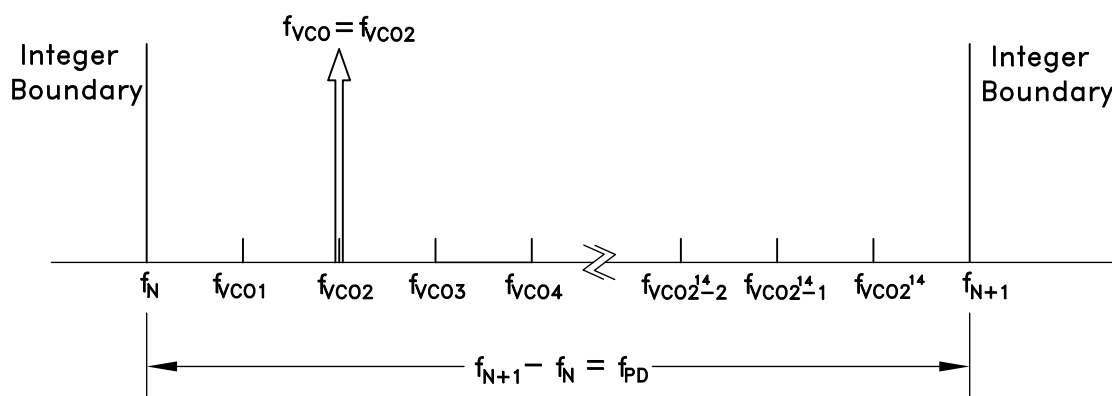

Figure 44. Exact Frequency Tuning
and f_{VCOk} are the channel step frequencies where $0 < k < 2^{24}-1$, As shown in Figure 44.
Some fractional PLLs are able to achieve this by adjusting (shortening) the length of the Phase Accumulator (the denominator or the modulus of the Delta-Sigma modulator) so that the Delta-Sigma modulator phase accumulator repeats at an exact period related to the interval frequency ($f_{VCOk} - f_{VCO(k-1)}$) in Figure 44. Consequently, the shortened accumulator results in more frequent repeating patterns and as a result often leads to spurious emissions at multiples of the repeating pattern period, or at harmonic frequencies of $f_{VCOk} - f_{VCO(k-1)}$. For example, in some applications, these intervals might represent the spacing between radio channels, and the spurious would occur at multiples of the channel spacing.
If it is desirable to have multiple, equally spaced, exact frequency channels that fall within the same interval (ie. $f_N \leq f_{VCOk} < f_{N+1}$) where f_{VCOk} is shown in Figure 44 and $1 \leq k \leq 2^{14}$, it is possible to maintain the same integer-N (Reg 03h) and exact frequency register (Reg 0Ch) settings and only update the fractional register (Reg 04h) setting. The Exact Frequency Channel Mode is possible if \(EQ 17\) is satisfied for at least two equally spaced adjacent frequency channels, i.e. the channel step size.
To configure the HMC834LP6GE for Exact Frequency Channel Mode, initially and only at the beginning, integer (Reg 03h) and exact frequency (Reg 0Ch) registers need to be programmed for the smallest f_{VCO} frequency (f_{VCO1} in Figure 44), as follows:
1. Calculate and program the integer register setting Reg 03h = $N_{INT} = \text{floor}(f_{VCO1}/f_{PD})$, where f_{VCO1} is shown in Figure 44 and corresponds to minimum channel VCO frequency. Then the lower integer boundary frequency is given by $f_N = N_{INT} \cdot f_{PD}$.
Reg 04h = $N_{FRAC} = \text{ceil}\left(\frac{2^{24}(f_{VCOk} - f_N)}{f_{PD}}\right)$ where $f_N = \text{floor}(f_{VCO1}/f_{PD})$, and f_{VCO1} , as shown in Figure 44, represents the smallest channel VCO frequency that is greater than f_N .
4. To change from channel 1 ($f_{VCO1} = 2800.2$ MHz) to channel 2 ($f_{VCO2} = 2800.3$ MHz), only Reg 04h needs to be programmed, as long as all of the desired exact frequencies f_{VCOk} (Figure 44) fall between the same integer-N boundaries ($f_N < f_{VCOk} < f_{N+1}$). In that case